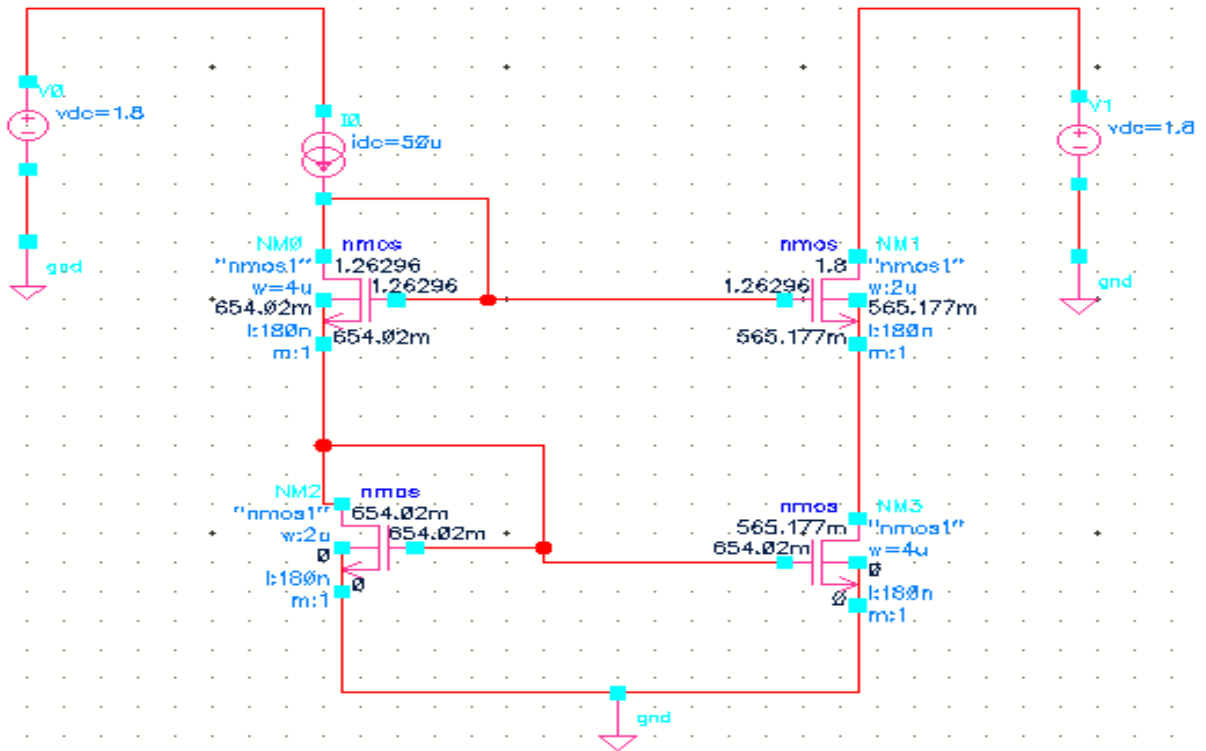

Figure 3(b): Cascode current mirror circuit
1. To Design a basic current mirror as shown in fig.3 (a) to provide an output current of 100  $\mu$ A.